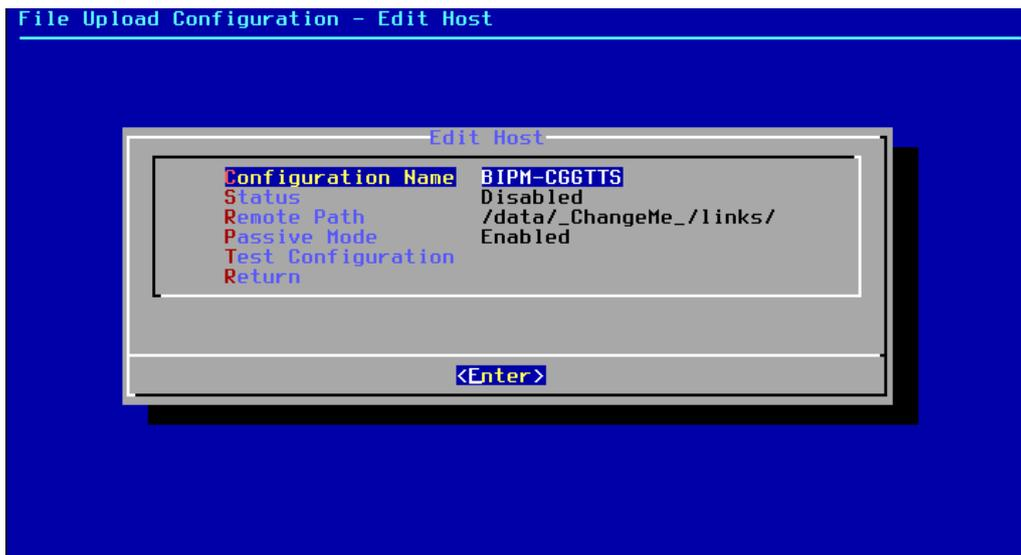

Figure 27: Automatic data upload BIPM server configuration
- Change status to disabled (fig. 27)
- Enter Configuration Name (for example NBIPM-RINEX) (28)